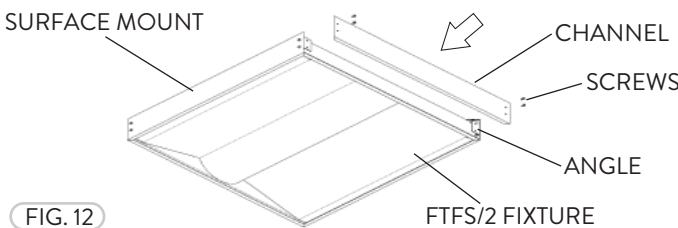

FIG. 12
- 4 Once the FTFS/2 fixture is properly installed on the Surface Mount, fasten the last two Angles and side Channel to completely enclose the FTFS/2 fixture (Fig. 12).